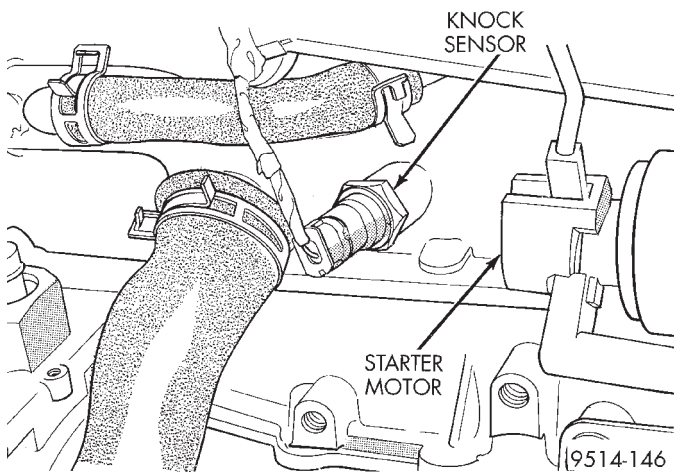

Fig. 49 Knock Sensor—2.0/2.4L
(15) Check electrical connection at the knock sensor (Fig. 49), 2.0/2.4L engines only.